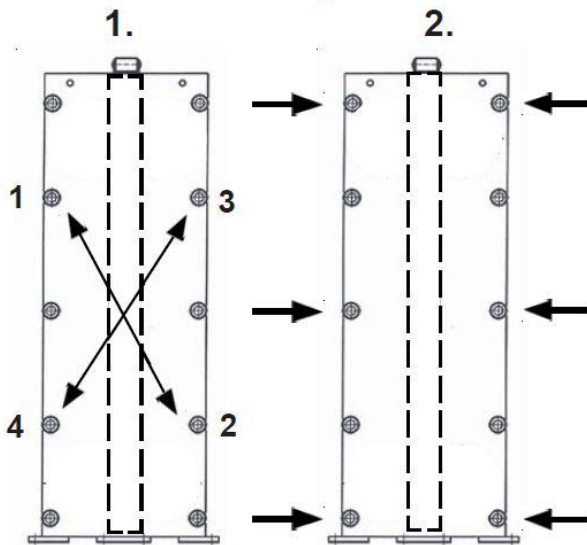

Fig. 19
- 6- First attach the greased tightening bolts 1-2-3-4 from the side or insert them in an axial direction (figure 19). Make sure that the counter nuts at the frame plate are tight.
- 8- Tighten the plate pack with bolts 1-4 (see figure 19) to compression dimension “pp” (dimension noted before opening the PAT). The remaining tightening bolts must also be fixed and tightened during the process to reduce any chance of deflection of the pressure plate.